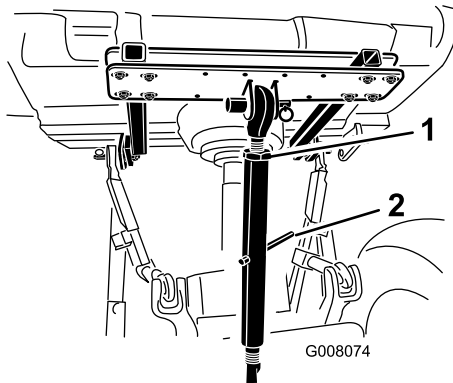

Figure 9
- Rotate the adjusting link to tighten the link (Figure 9). Do not overtighten to raise the back end of the aerator off the ground.
- Tighten lock nut to secure upper link into position (Figure 9).